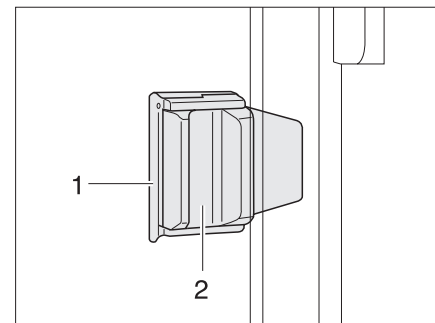

Fig. 33 Sliding window with slide lock
- Pull out the lock (Fig. 33,1).
- Press handle (Fig. 33,2) and push it forward or backward at the same time.